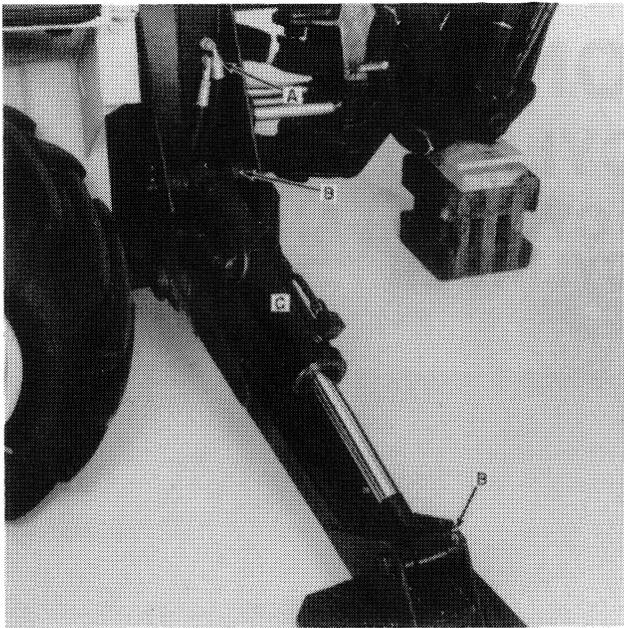

FIGURE 2-2
1. Lower the stabilizer until it just touches the ground as shown in Figure 2-2. Shut off the engine.